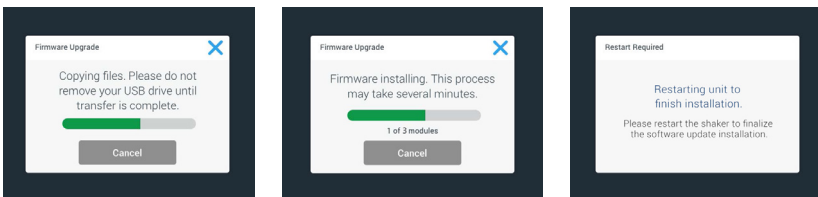

Figure 127: Firmware Upgrade Install Messages
15. To inform you about the progress of the installation, various messages appear, as shown in Figure 127.